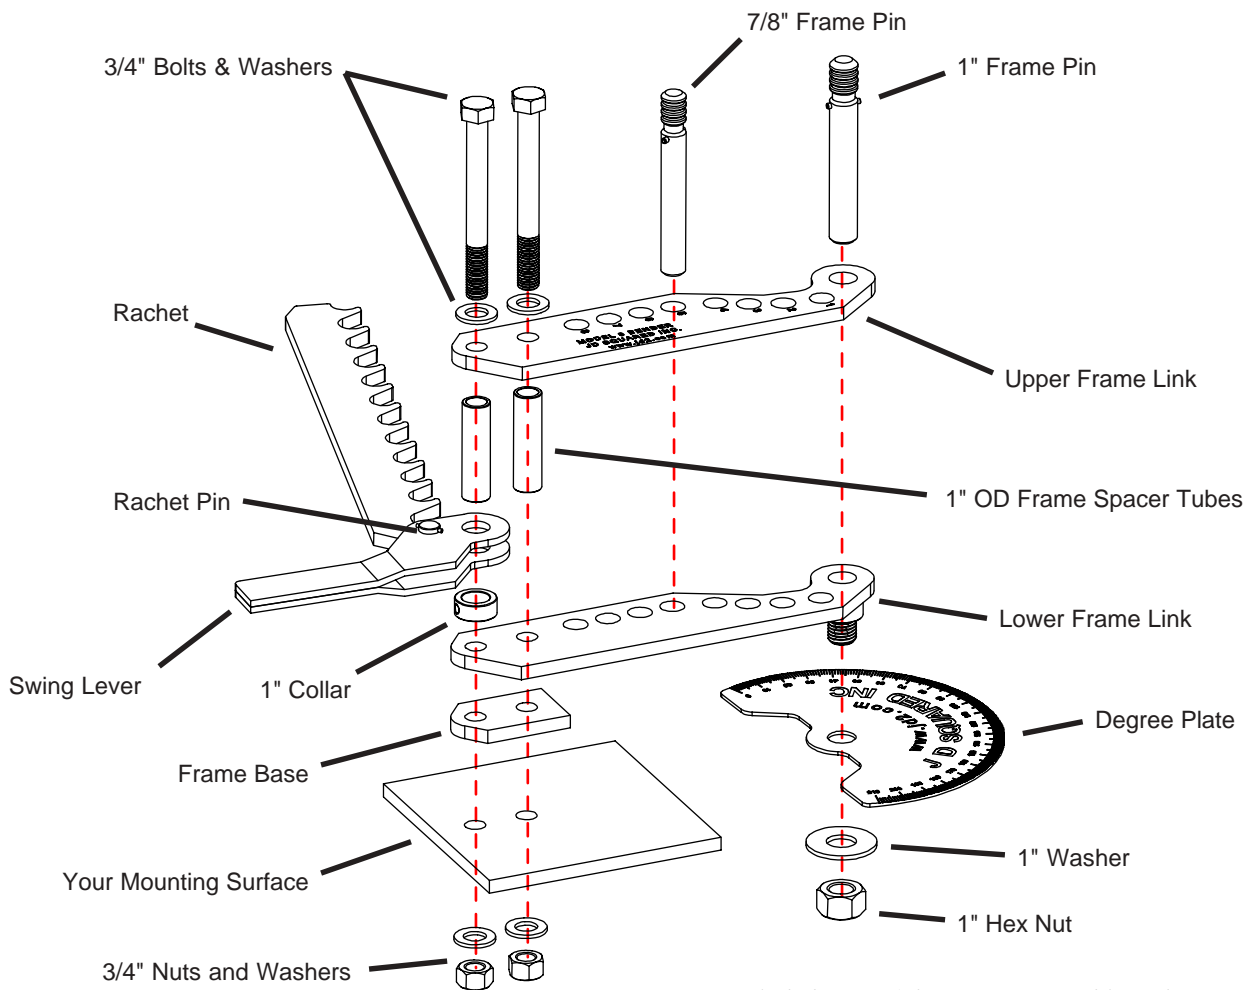

Figure 1 - Exploded view of the Frame Assembly with Degree Plate
- C) Assemble the Ratchet and Swing Lever **exactly** as shown in figures 1,2 & 4 using the 3/4" pin and two 1/8" spring pins. The Swing Lever must rotate almost a full 180 degrees. If the Swing Lever is installed upside down you will be unable to engage the next ratchet tooth during bending. Please, double check it. For hydraulic adapter installation see page 3.